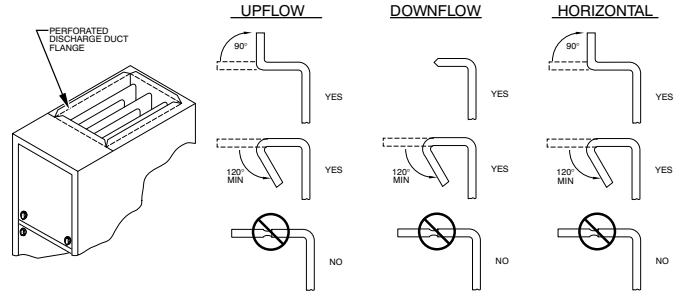

Fig. 20 – Duct Flanges
Connect supply-air duct to flanges on furnace supply-air outlet. Bend flange upward to 90° with wide duct pliers. See Fig. 20. The supply-air duct must be connected to ONLY the furnace supply-outlet-air duct
**NOTE:** It is recommended that the perforated supply-air duct flanges be completely removed from furnace when installing the furnace on a factory-supplied cased coil or coil box. To remove the supply-air duct flange, use wide duct pliers or hand seamers to bend flange back and forth until it breaks off. Be careful of sharp edges. See Fig. 20.
Connect supply-air duct to supply-air outlet on furnace. Bend flange inward past 90° with wide duct pliers. See Fig. 20. The supply-air duct must be connected to ONLY the furnace supply outlet or air conditioning coil casing (when used). When installed on combustable material, supply-air duct must be connected to ONLY the factory-approved accessory subbase, or a factory-approved air conditioning coil casing. DO NOT cut main furnace casing to attach supply side air duct, humidifier, or other accessories. All supply-side accessories MUST be connected to duct external to furnace casing.
Connect supply-air duct to flanges on furnace supply-air outlet. Bend flange upward to 90° with wide duct pliers. See Fig. 20. The supply-air duct must be connected to ONLY the furnace supply-outlet-air duct flanges or air conditioning coil casing (when used). DO NOT cut main furnace casing side to attach supply air duct, humidifier, or other accessories. All supply-side accessories MUST be connected to duct external to furnace main casing.